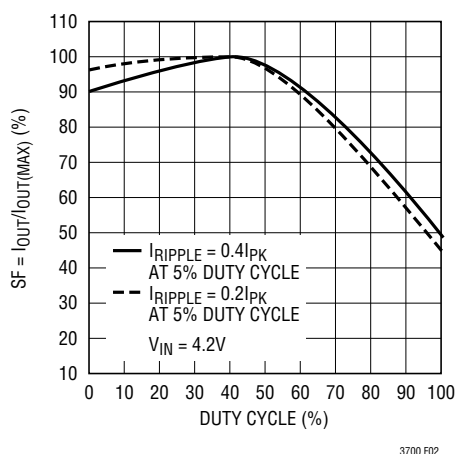

Figure 2. Maximum Output Current vs Duty Cycle
**Note 6:** Peak current sense voltage is reduced dependent on duty cycle to a percentage of value as given in Figure 2.
when the buck is operating below 40% duty cycle. However, once the duty cycle exceeds 40%, slope compensation begins and effectively reduces the peak inductor current. The amount of reduction is given by the curves in Figure 2.
However, for operation that is above 40% duty cycle, slope compensation effect has to be taken into consideration to select the appropriate value to provide the required amount of current. Using Figure 2, the value of  $R_{\text{SENSE}}$  is: